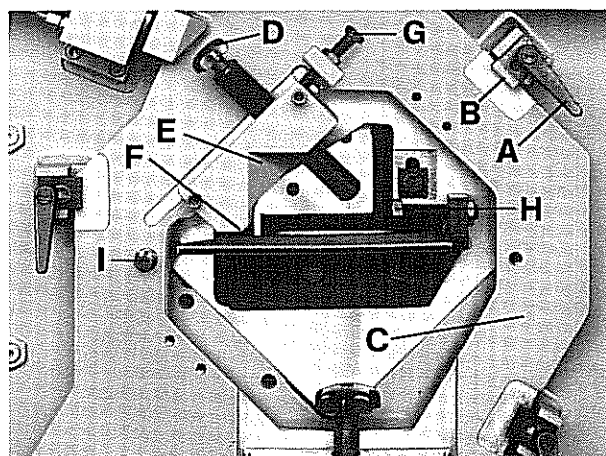

Fig. 38: Hold-down KBLH 500, 700 and 1000: design for PMG blades
- b) KBLH 500, 700 and 1000: Loosen clamping lever "A", push supporting bracket "B" outwards, and tighten again. Remove hold-down plate "C" to the front (Cf. fig. 38).
(Cf. fig. 38)
In case the cut will not be done at exactly right angle or 45°, adjust by means of the screws "H" (for 90°) and "I" resp., or slightly shift the pressure piece (for 45° cuts). Cf. fig. 38.